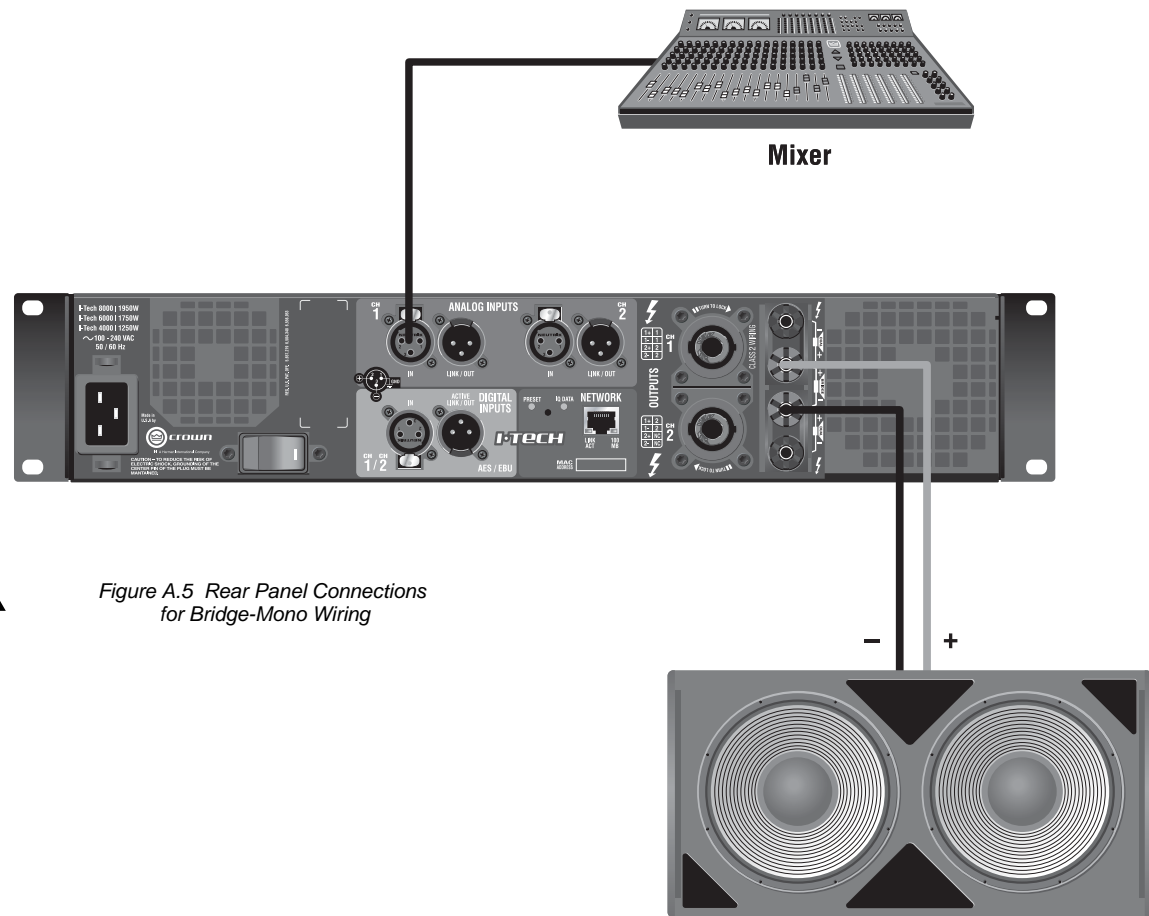

Figure A.5 Rear Panel Connections for Bridge-Mono Wiring
6. See Figure A.5. Connect a cable from your mixer output to the amplifier's Channel-1 XLR input connector.
7. Using Class 2 wiring, connect the speaker cable either to the amplifier's top Speakon connector (terminals 1+ and 2+, Figure A.6) or across the red binding posts of both channels (Figure A.5). Do not use the black binding posts in bridge-mono mode.